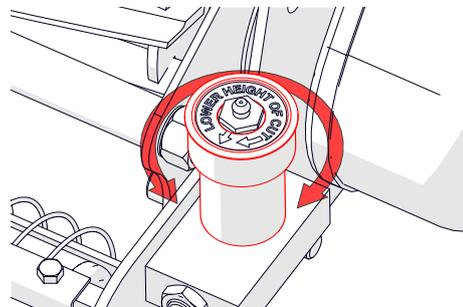

Fig.9D - Adjust the cut height adjuster.
6. Manually turn the cut height adjuster to alter the height (Fig.9D). It adjusts in quarter turn 'clicks' of 0.25mm increments. Therefore a full rotation of the adjuster raises or lowers by 1mm.